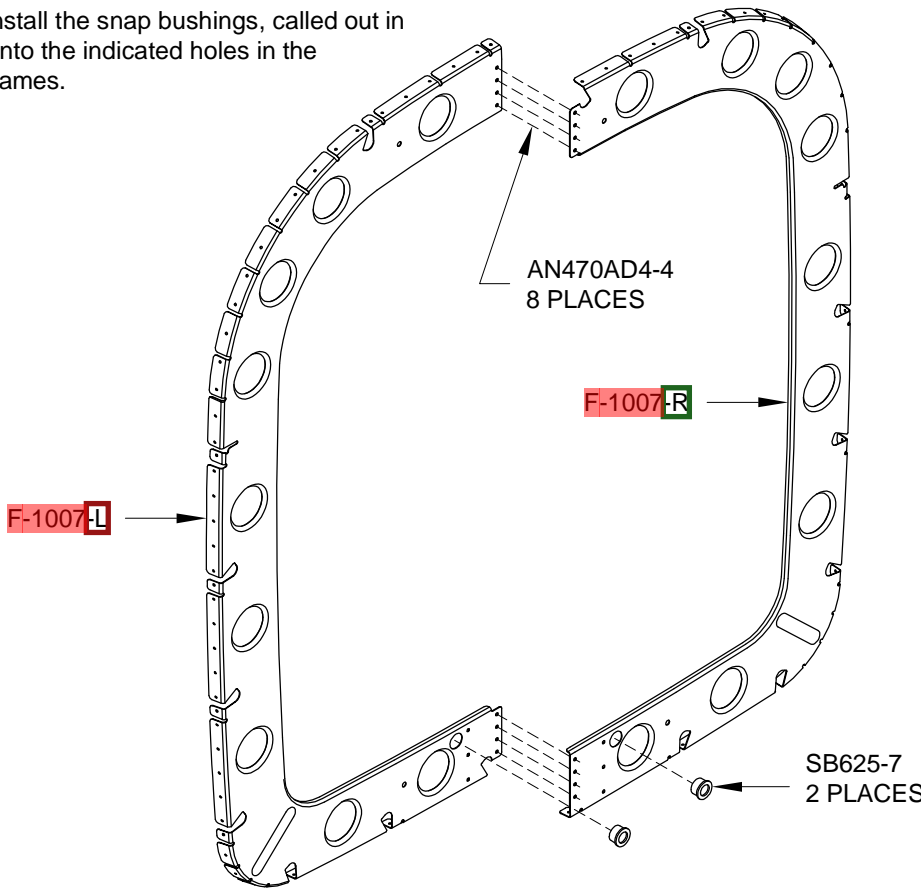

FIGURE 4: RIVETING THE F-1007 FRAMES
Step 3: Rivet the nutplates shown on Page 10-2, Figure 4 to the F-1011E Rudder Cable Angle using AN426AD3-4 rivets.
Step 5: Rivet the F-1007 Frames together using the rivets called out in Figure 4.
Step 6: Install the snap bushings, called out in Figure 4, into the indicated holes in the F-1007 Frames.